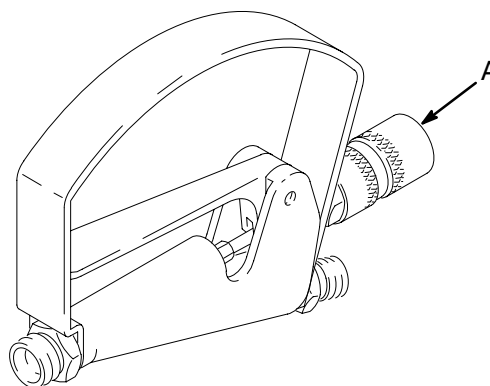

Fig. 2
To lock the safety knob (A), turn the knob fully clockwise; this locks the needle in the forward position. To unlock the safety knob, turn the knob fully counterclockwise. See Fig. 2.